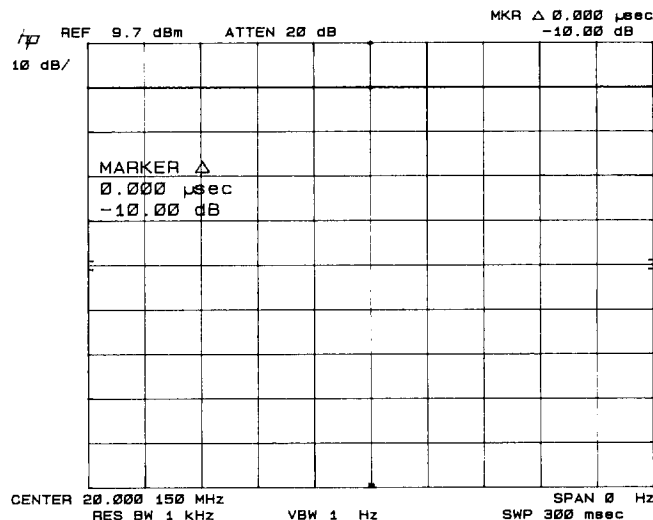

FIGURE 12. SCALE FIDELITY MEASUREMENT
- Press **MARKER** **Δ** . Step the frequency synthesizer output amplitude from +10 dBm to −80 dBm in 10 dB steps, noting the **MARKER Δ** amplitude (a negative value) at each step and recording it in column 2 of Table 12. Allow several sweeps after each step for the video filtered trace to reach its final amplitude (see Figure 12).